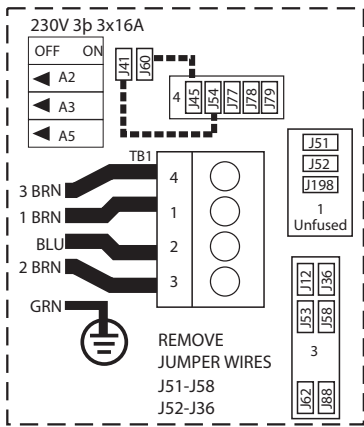

Figure 2
### OPTIONAL HOOKUP – 3 SERVICE (Figure 2)
- 2. Only reinstall jumper wires as indicated by dotted lines in Figure 2.